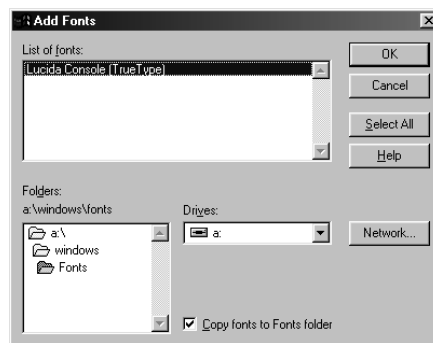

Figure 1–2: Lucida Console font icon
3. Verify that the Lucida Console (True Type) font icon is present, as shown in Figure 1–2.